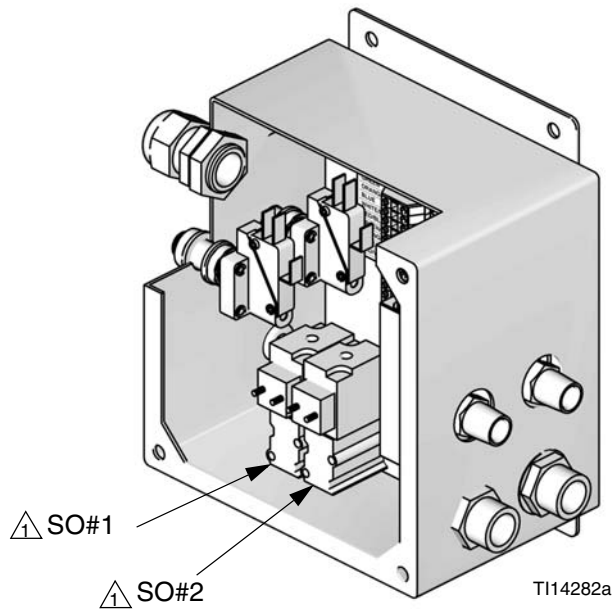

FIG. 7. Install Solenoid (two shown)
1. Each gun flush box kit includes one solenoid (SO). The GFB interface module can accommodate 1 or 2 solenoids. Install the solenoid(s) on the manifold at the bottom rear of the enclosure. See FIG. 7.